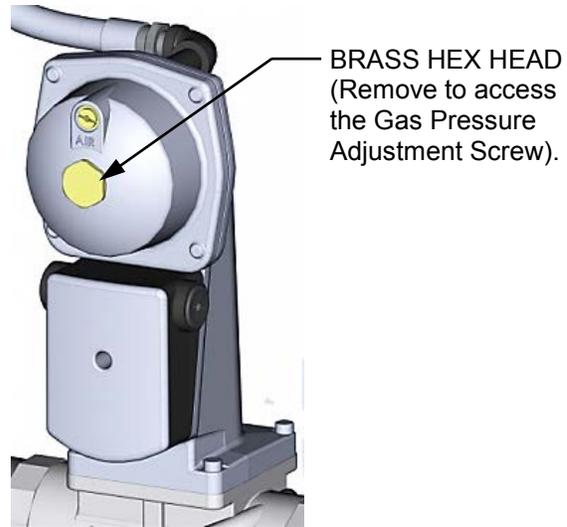

Figure 4-3: Gas Pressure Adjustment Screw Location
10. Next, verify that the gas pressure downstream of the SSOV is set to the proper value, listed in Table 4-1. If gas pressure adjustment is required, remove the brass hex nut on the SSOV actuator to access the gas pressure adjustment screw (Figure 4-3). Make gas pressure adjustments using a flat-tip screwdriver to obtain the proper gas pressure.
15. If the oxygen level is not within the required tolerance, the gas pressure on the downstream side of the SSOV must be adjusted using the gas pressure adjustment screw on the SSOV (Figure 4-3). Slowly rotate the gas pressure adjustment (approximately 1/4-turn increments). Allow the combustion analyzer to stabilize following each adjustment. Clockwise rotation reduces the oxygen level, while counterclockwise rotation increases the oxygen level.
10. Next, verify that the gas pressure downstream of the SSOV is set to the proper value, listed in Table 4-2. If gas pressure adjustment is required, remove the brass hex nut on the SSOV actuator to access the gas pressure adjustment screw (Figure 4-3, above). Make gas pressure adjustments using a flat-tip screwdriver to obtain the proper gas pressure.